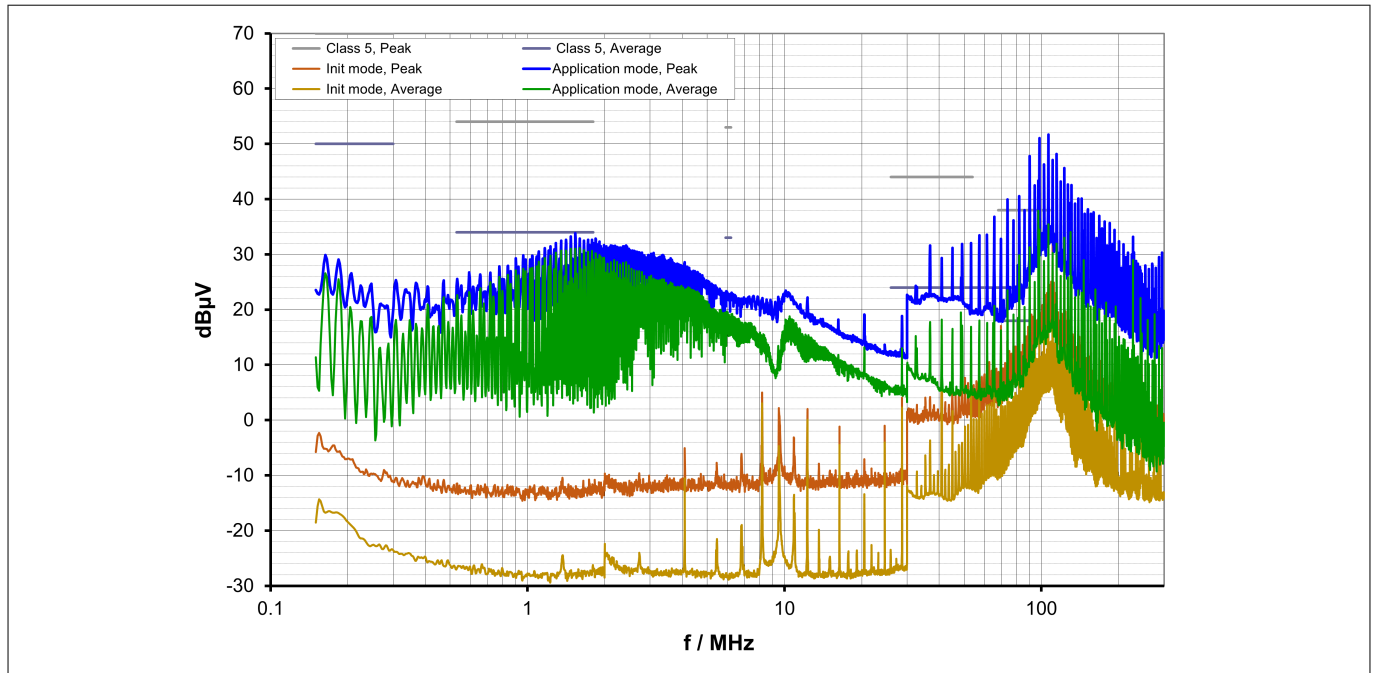
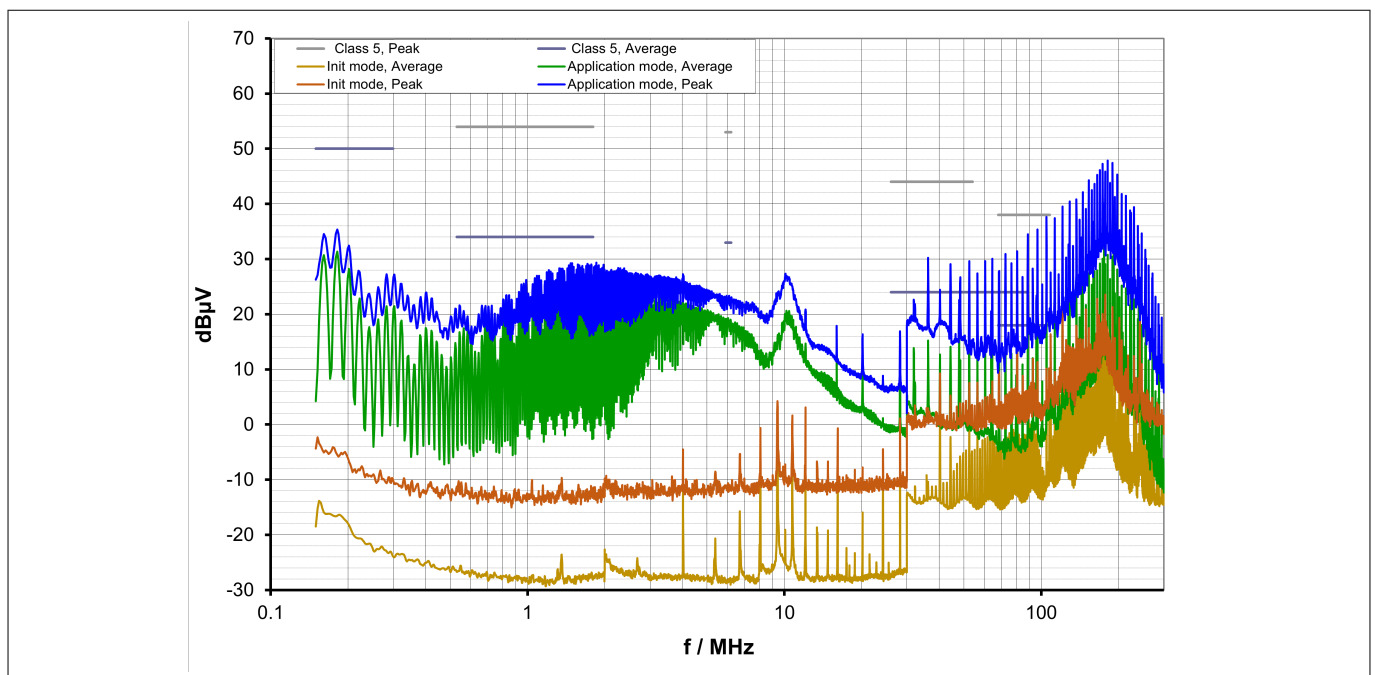

Figure 19 EMC result, Valve, reference design without caps at OUTx - GND and input Vs cap
Figure 20 EMC result, Grill shutter, reference design without caps at OUTx - GND and input Vs cap
- In Figure 19 and Figure 20, we can see that there is a high emission in frequency range 4-12 MHz and followed by harmonics of that frequency, this noise is mainly coming from the fundamental digital and analog block of the device such as oscillator to generate the clock, bridge driver, serial peripheral interface \(SPI\) etc.
- In Figure 19 and Figure 20, we can also see the high emission in frequency range 12 - 120 MHz, it combines the noise coming from the measurement setup and harmonics of the lower frequency noise
- Remember that we have difference of cable length between OUTx to motor terminal for both loads and this impact we can see in the result. At high frequency, the noise for grill shutter in Figure 20 is bit shifted away from the 100 MHz, this is due to the fact of bit higher inductance, more antenna effect etc.